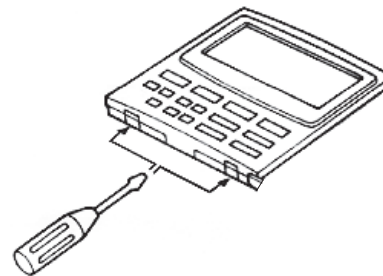

Fig. 2-240
- (1) Remove the cover of the optional wired remote controller. (Fig. 2-240)